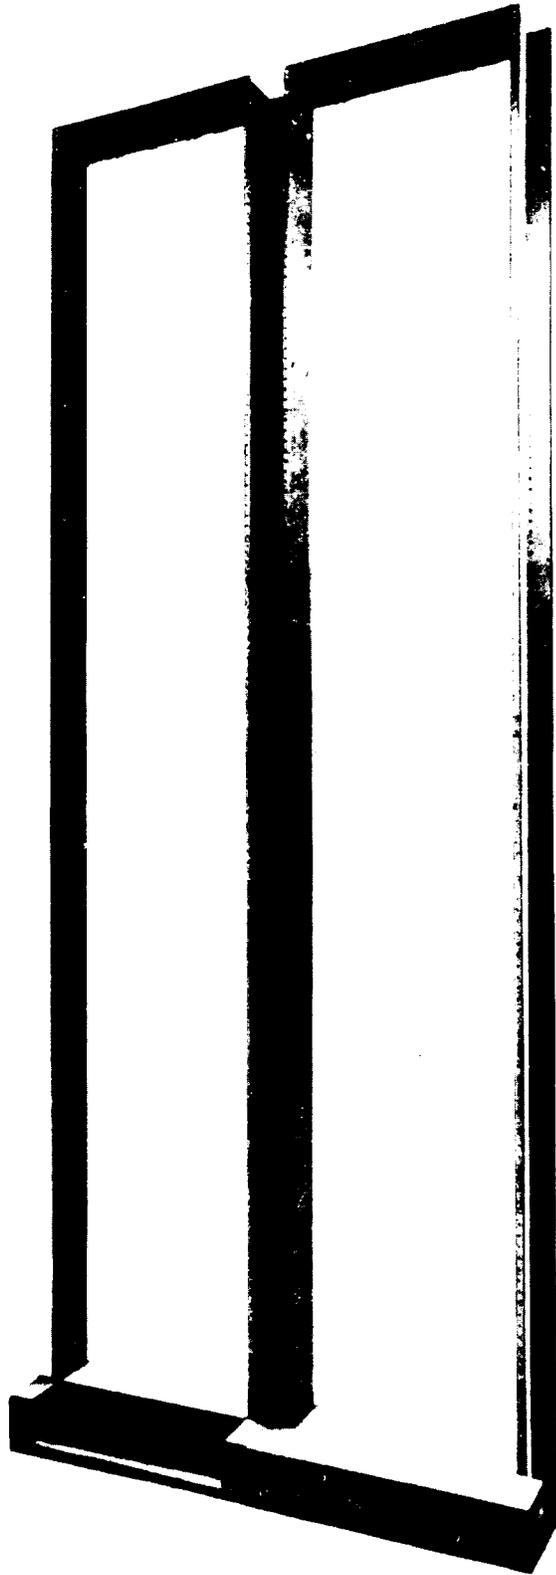

Fig. 1—Two Single 11-foot 6-inch Bays with 5-inch Removable Guard Rail on Narrow Flange Side and Top Angle on Wide Flange Side
1.01 This specification, together with the supplementary information listed herein, covers the equipment design requirements for cable duct-type bay framework with unequal flange uprights and associated parts. (See Fig. 1 and 2.)